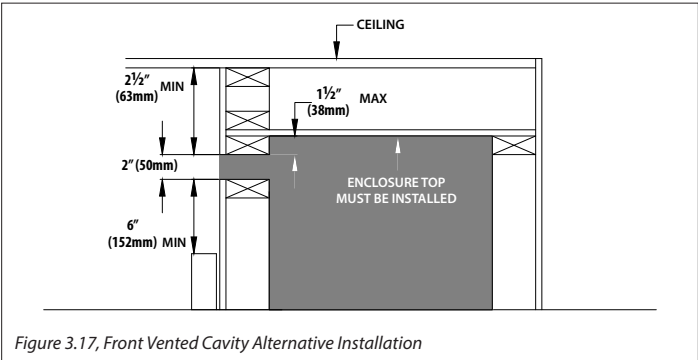

Figure 3.17, Front Vented Cavity Alternative Installation
- Figure 3.17 shows an alternative installation method where you cap off the fireplace cavity so the air discharge opening can be located further down the fireplace chamber. If you cap the fireplace cavity off, it cannot have any vent pipe running through the top with a ceiling firestop. This installation method can elevate any possible concerns with paint discoloration from heat or dust.